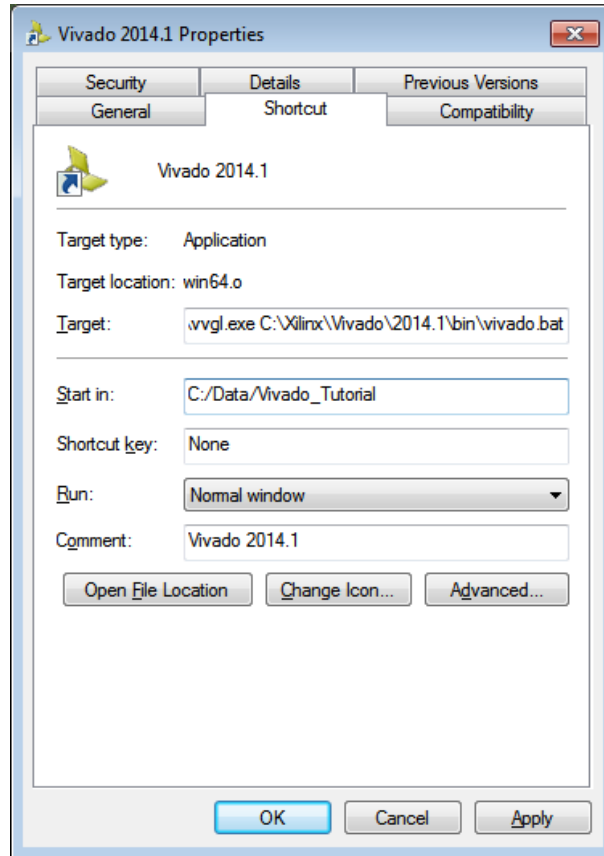

Figure 10: Configuring the Start in Directory
2. Under the **Shortcut** tab, set the **Start in** value to the extracted Vivado Tutorial directory, as shown in Figure 10: